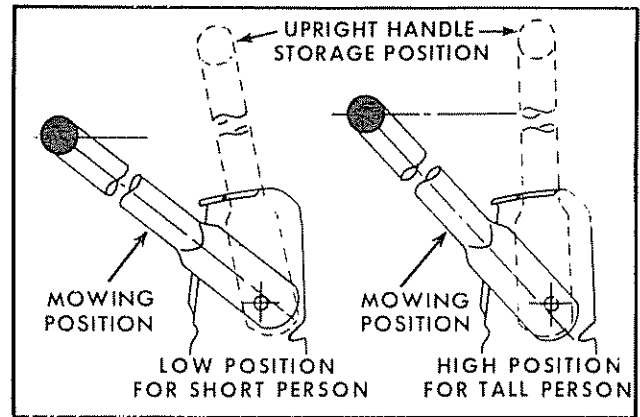
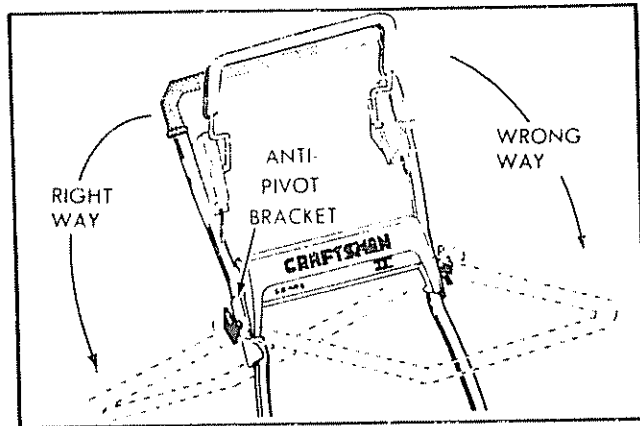

FIG. 2
FIG. 5
1. Raise the handles until the lower handle is in mowing position (See Fig. 2).
2. Raise the upper handle into position on the lower handle and tighten the two (2) handle knobs.
**NOTE:** The anti-pivot bracket on your mower handle prevents folding upper handle the wrong way which can bend control cables (See Fig. 5).
**NOTE:** Be sure anti-pivot bracket is on right hand side of your handle (See Fig. 5).
**CAUTION:** WHEN FOLDING HANDLE FOR TRANSPORTING OR STORAGE, BE SURE TO FOLD HANDLE AS SHOWN IN FIG. 5. IF YOU FOLD HANDLE THE WRONG WAY, YOU MAY BEND THE CONTROL CABLES.